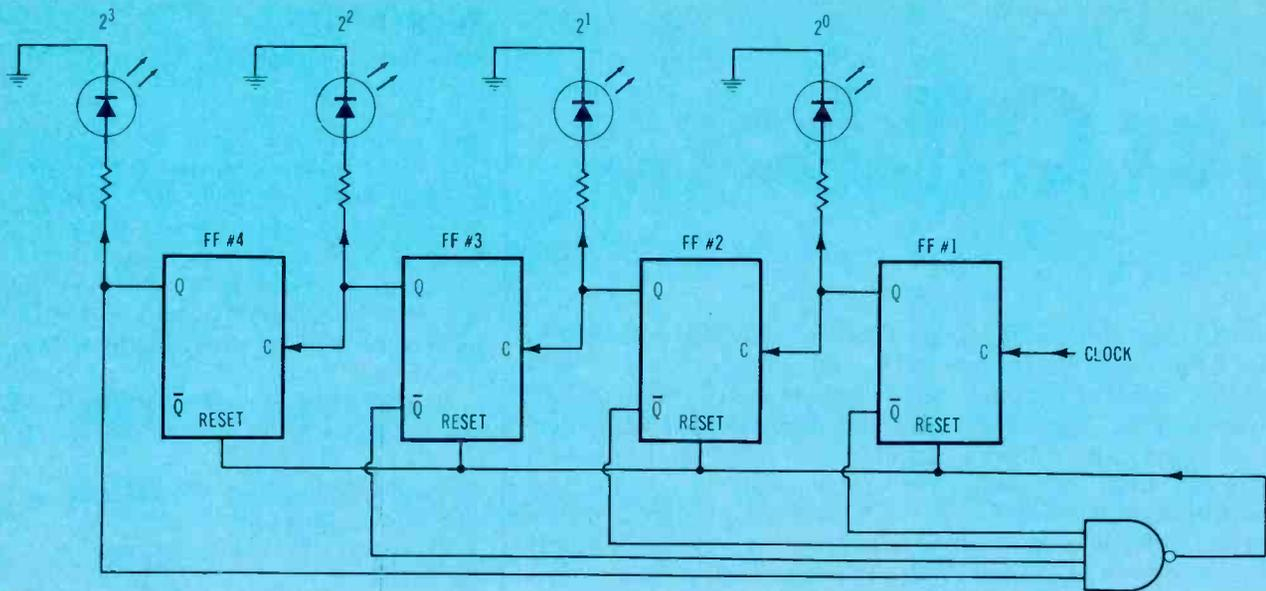

Figure 5 The NOT gate of Figure 4 can be eliminated by taking the NAND input from the Q output of FF#4, rather than from the Q output through the NOT.
In Figure 4, a minor change can eliminate the inverter (NOT gate). We know that the Q output digital level is always opposite the level at the Q output, and vice versa. Therefore, we can wire the fourth NAND input direct to the Q output of FF#4, instead of to the Q output through an inverter (see Figure 5). In other words, the internal inverter of the flip flop is used instead of the external one.
Suppose you are testing the circuit of Figure 5, but instead of resetting after the 7 count, it counts to 15 before resetting. Which is likely to be the cause of the malfunction: (1) a defective flip flop; (2) an incorrect clock signal; or (3) a defective NAND?
- In Figure 5, disconnect the clock signal from the FF#1 clock input, and connect the output of the bounceless switch to the clock input.
Don't use any NOT gates (inverters), but include the 4-input NAND gate, in the same general way as Figure 5.
Figure 5 A "frequency-generator" servo holds the motor at one precise speed, according to the time constants of the two one-shot multivibrators. (A) This is the block diagram of a FG servo. (B) When the motor is running at the correct speed, these are the waveforms and phase of the signals shown on the diagram. (C) A faster motor speed narrows the square waves, and the pulse samples the ramp at a point of lower voltage, to reduce the motor speed. (D) If the motor runs too slow, the square waves become wider, and the pulse samples the ramp later at a point having higher voltage. After integration and amplification of the error signal, the DC power that's applied to the motor is increased, thus speeding up the rotation.